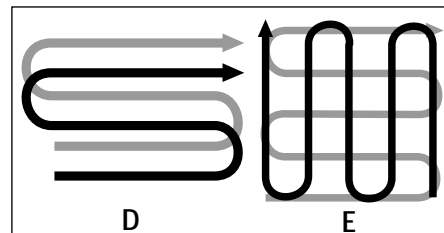

Figure 8: Recommended Tilling Pattern.
1. To make seedbeds, go over the same path twice in the first row, then overlap one-half the machine width on each successive pass until all rows are tilled twice (D, Figure 8).
2. Make a second pass at a right angle across the original passes. Again, overlap each pass (E, Figure 8). Hard ground may take three to four passes before the desired depth is achieved.